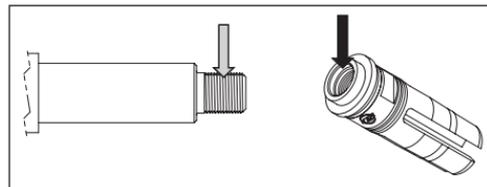

FIGURE 3
2. Apply acetone/degreaser to the muzzle threads of host weapon barrel. Use cleaning cloth and/or brass brush to remove debris and residue from threads. Additionally, apply acetone/degreaser on cotton swab to clean the internal threads of adapter. Rocksett will not adhere to threads if surface is not dry and stripped clean of debris and residue (Figure 3).